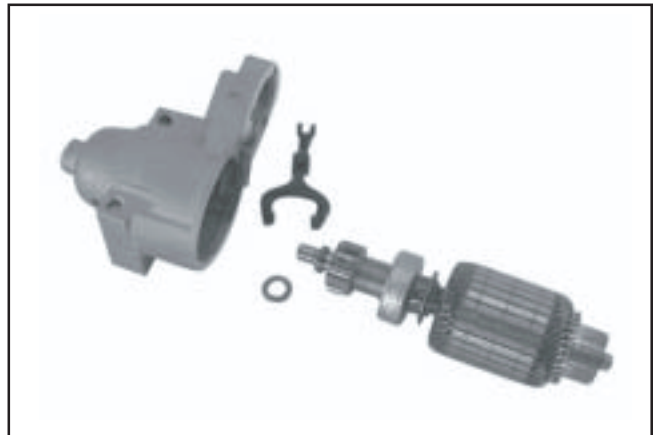

Figure 8-18. Armature and Lever Removed.
8. Take out the drive lever and pull the armature out of the drive end cap. See Figure 8-18.
9. Remove the thrust washer from the armature shaft. See Figure 8-18.